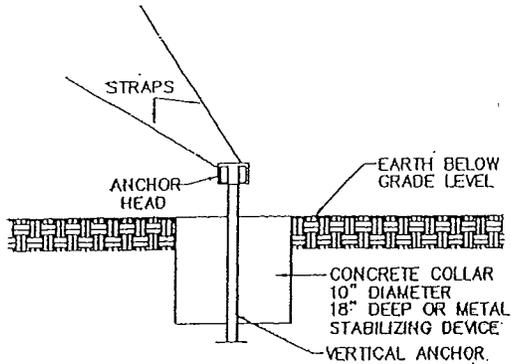

FIGURE 5-15
3. IF ANCHOR IS INSERTED VERTICALLY A CONCRETE COLLAR OR STABILIZING DEVICE MUST BE USED AT THE GROUND LINE. SEE FIG. 5-15 AND 5-16.
4. EACH OF THE STRAPS AND CONNECTIONS TO THE I-BEAM MUST HAVE AN ULTIMATE STRENGTH OF 4725 LBS. SEE FIG. 5-15 AND 5-16.